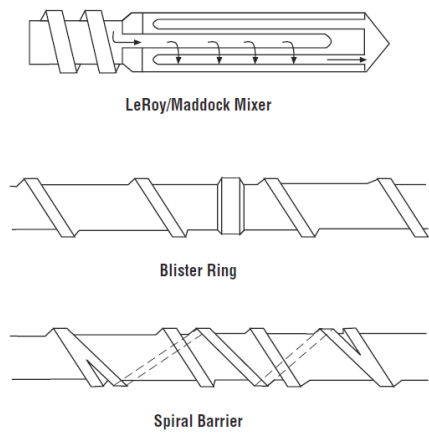

Figure 22a. Dispersive Mixing Sections
A large number of dispersive mixing sections are now available (Figure 22a.). They may be classified into four main groups (1) shear or blister rings, (2) fluted mixers (such as the Egan, Maddock or Zorro mixing sections), (3) cross barrier mixers (such as the EVK and the straight cross-channel barrier mixing sections) and, (4) planetary-gear (PG) extruder mixers. When judged by the criteria outlined above, the planetary gear extruder (PGE) mixers are probably the best all round single screw machines. The excellent heat transfer obtained, as a result of the large surface areas in contact with the melt, make them well suited for processing heat sensitive materials, such as UPVC. Good distributive and dispersive mixing are obtained. However, it should be possible to obtain slightly better dispersive mixing by the use of relatively simple, fluted mixing sections, such as the Egan, Maddock or Zorro mixing sections,
Pins, which protrude from the root of the screw into the plastic, are sometimes used to improve mixing, by breaking up laminar flow. The screw may also be fitted with mixing sections or elements. Typically, for a blow molding machine running a high molecular weight PE (HMWPE), the zero compression screw used is lengthened so that a fluted barrier section may be fitted, followed by a section which contains mixing pins. The fluted barrier section (also known as a Maddock mixing section or element) is a cylindrical shearing section, of approximately 2 to 3 D in length, which forms the screw tip. It has inlet passages from which melt can only reach the outlet passages via the land of the mixing section. Thus the melt must pass over a narrow gap before it can escape. This produces dispersive mixing (Figures 22a. & 22b.). However, at high output rates, this type of mixing section often cannot homogenize high molecular weight melts satisfactorily. So, use is also made of a mixing pin section after the Maddock mixing section. This arrangement also allows the melt to become thermally homogenized after it has been sheared. Thus it provides distributive mixing. Other arrangements are possible. For example, two mixing pin sections may sandwich a Maddock mixing section (see Dispersive Mixing Sections).